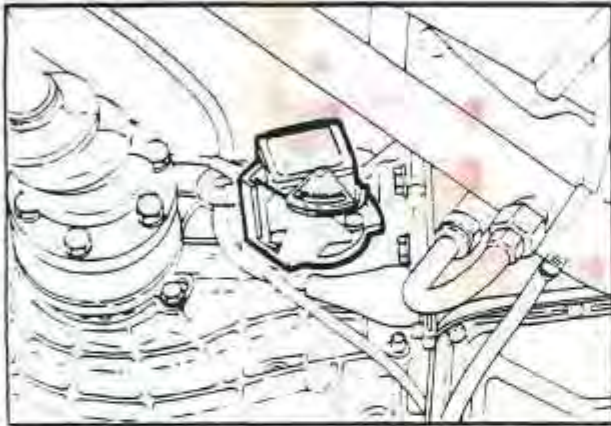

Fig. 21. GOVERNOR COMPUTER ASSEMBLY REMOVAL
10. Remove the bolts securing the governor computer to the case and extract the governor drive gear and assembly. *Fig. 21*